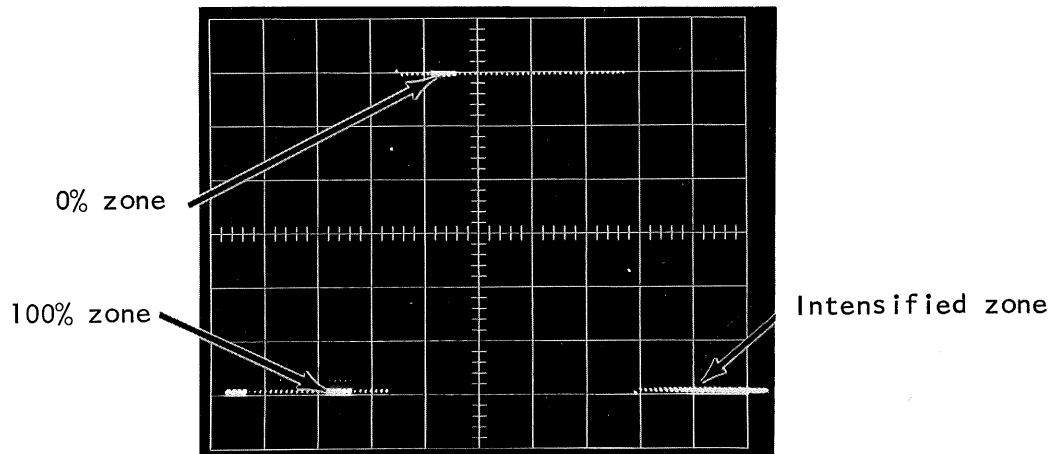

Figure 3-59
3. Set the Stop helidial to 6.08 or higher. There will be a jittery intensified zone after the first - slope. See Figure 3-59.